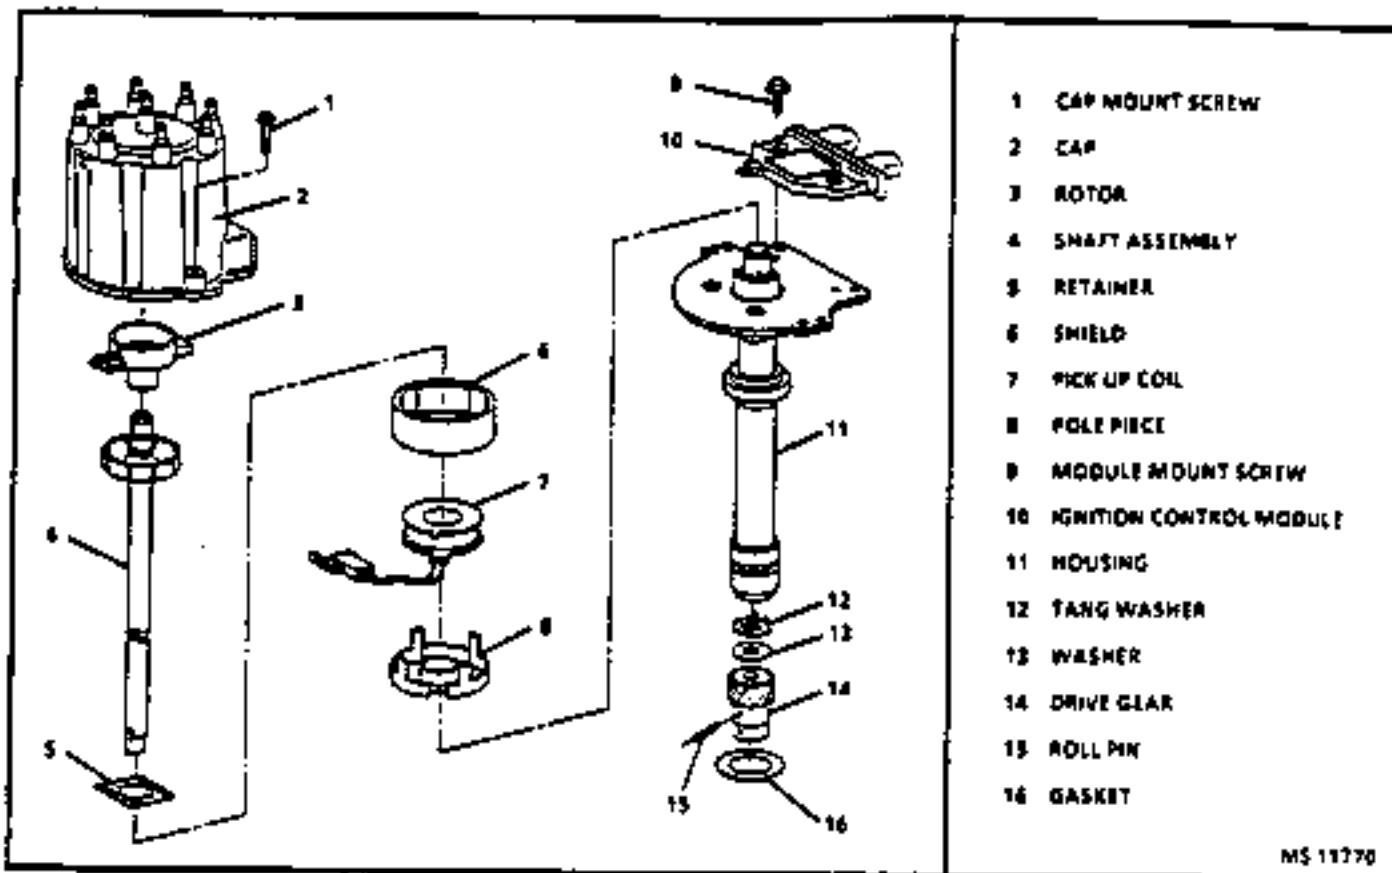

Figure 9 - Eight-Cylinder Engine Distributor Components
DISTRIBUTOR REPAIR Figures 9 through 11
Disassembly Figure 9
Assembly Figures 9 and 12
Figure 9 item 10